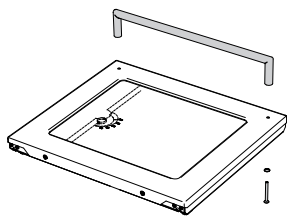

Fig. 71
- Remove oven door as described and place it on a clean surface, undo the handle screws (2x) and remove the oven door handle (Fig. 71).